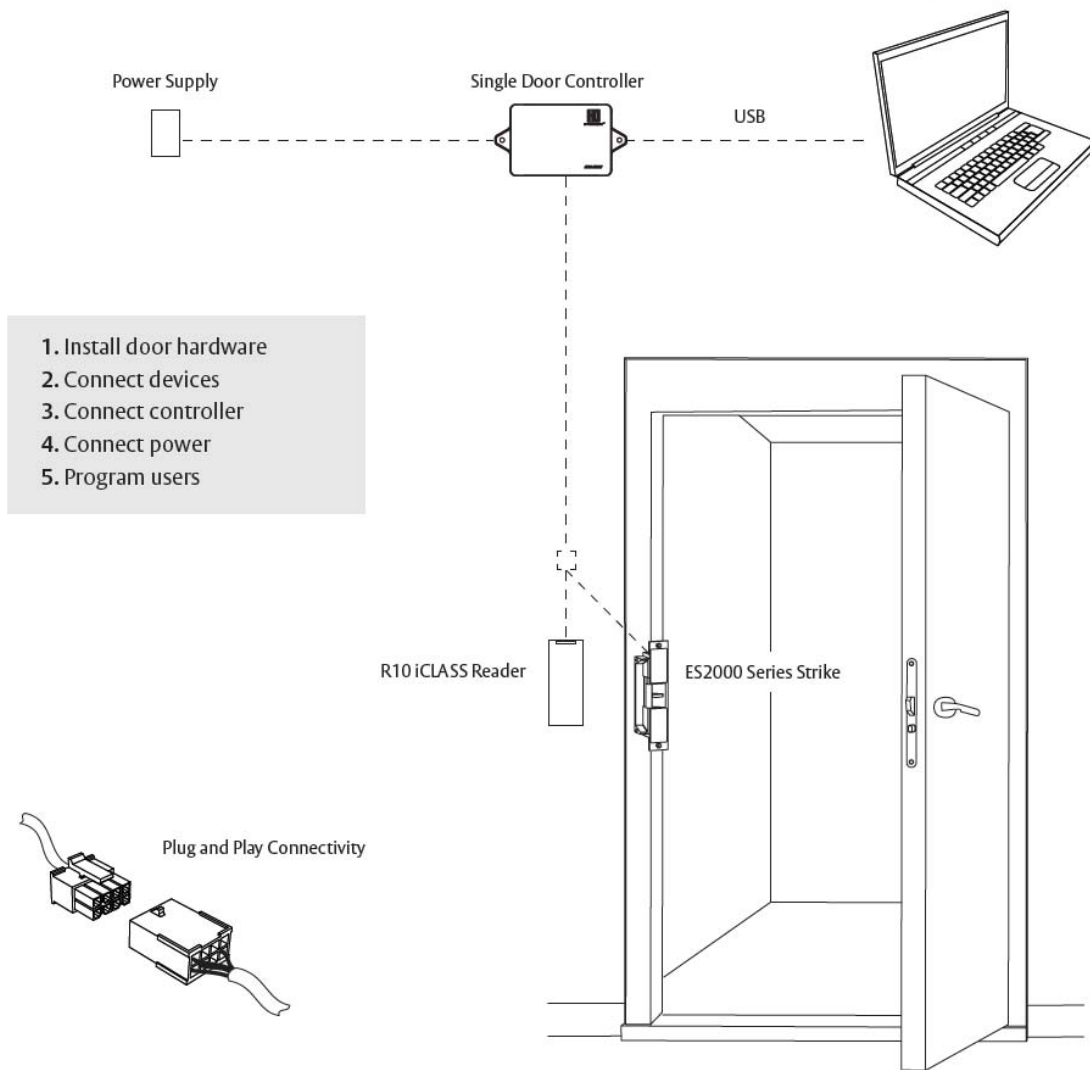

Figure 1: Install Stand Alone Controller
Figure 1 shows basic requirements to install the Lockwood Standalone system. To install the controller software requires PC with Windows Xp or later, DC Power Supply (11vdc – 16vdc) & Hi-O products. Details on how to use software is explained in section 2.
- Connect all hardware as shown in figure 1.